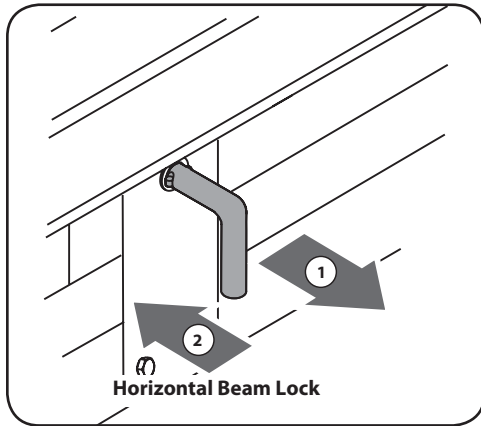

Figure 4-3
- b. The horizontal beam lock is self-locking. The spring loaded lock will snap into place when the beam is lowered into position. See Figure 4-3.